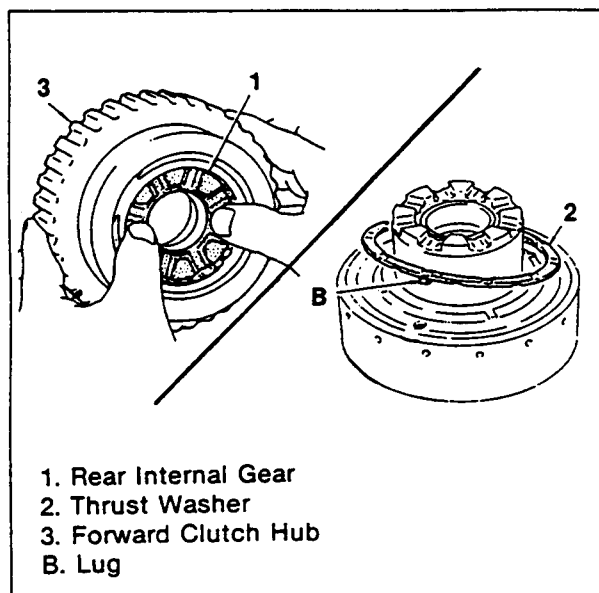

Figure 196. Rear Internal Gear and Thrust Washer Removal
Disassemble (Figures 196 and 197)
1. Disassemble the rear internal gear and remove the thrust washer (figure 196).